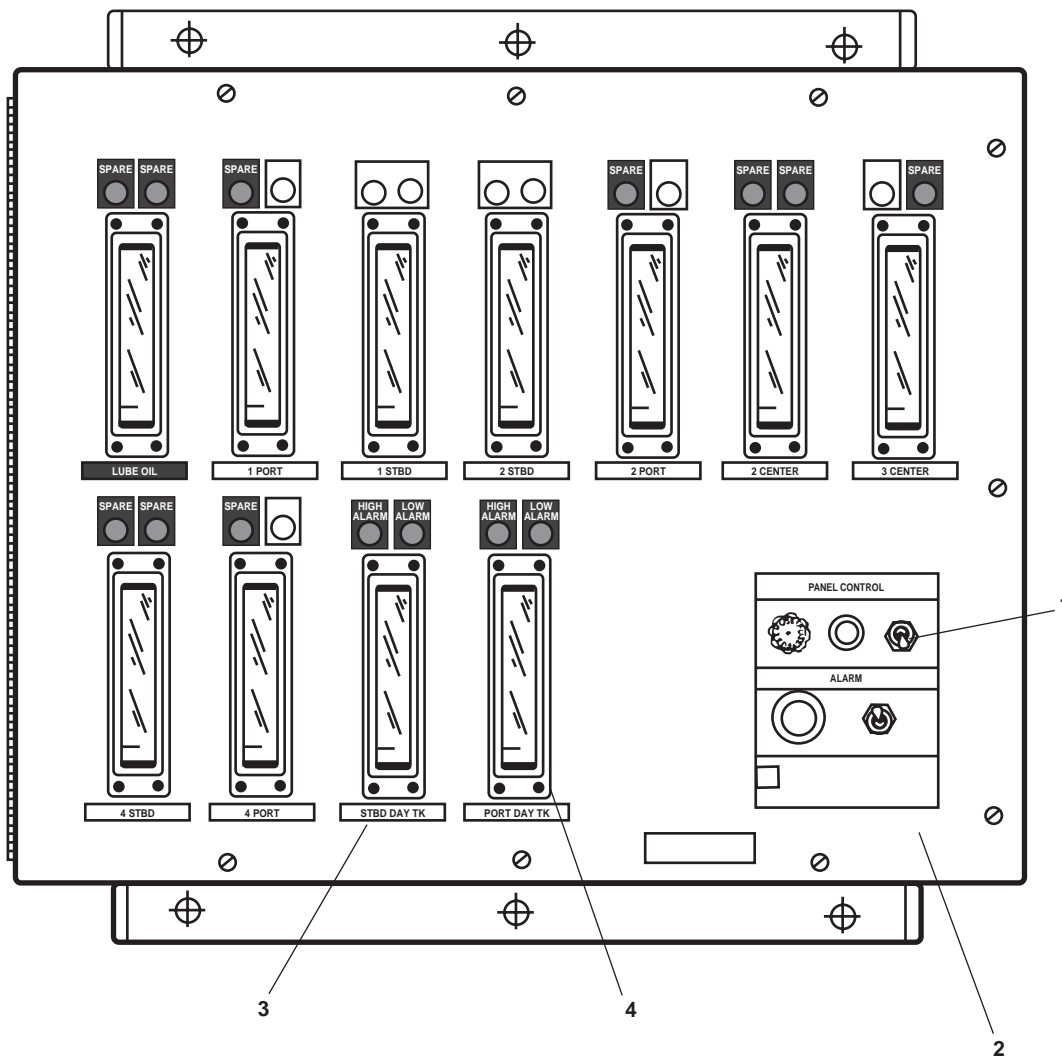
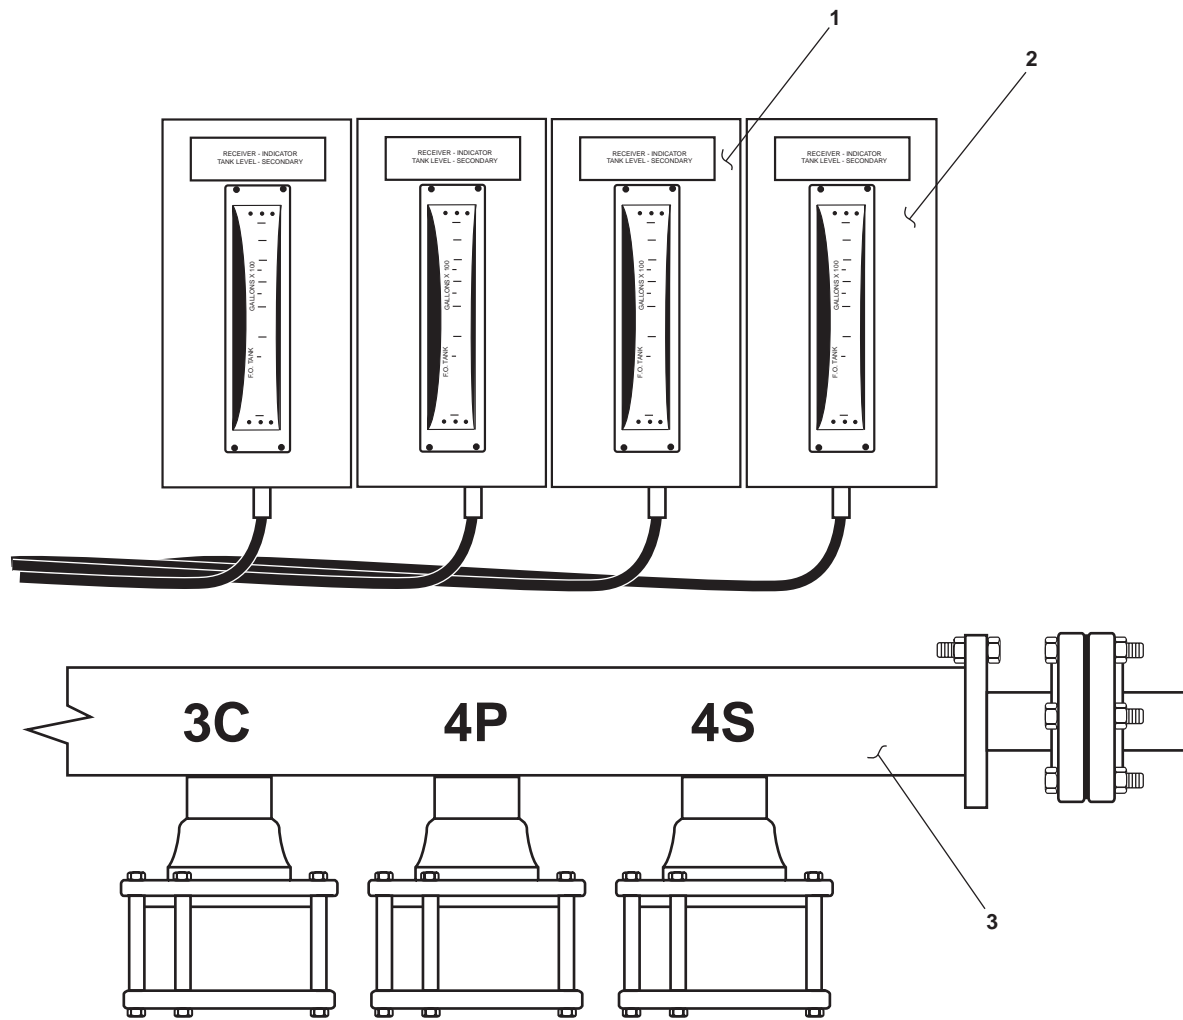

Figure 6. Master Tank Level Indicator Panel
Figure 7. Fuel Filter/Water Separator Filter Control Panel
5. Set to ON the ON-OFF switch (figure 6, item 1) on the master tank level indicator panel (figure 6, item 2) in the EOS.
6. Compare the STBD DAY TK Tank Level Indicator (TLI) gauge (figure 6, item 3) and the PORT DAY TK TLI gauge (figure 6, item 4) in the EOS with the STARBOARD DAY TANK TLI gauge (figure 7, item 1) and the PORT DAY TANK TLI gauge (figure 7, item 2) above the fuel oil transfer manifold (figure 7, item 3).
- b. At the fuel oil station, observe that the TLIs (figure 7, items 1 and 2) indicate that the selected day tank level is increasing, and the selected supply tank is decreasing.
- e. When the TLIs (figure 7, items 1 and 2) for the selected day tank indicate the desired level, STOP the fuel oil transfer pump(s), and secure the fuel oil transfer piping system.